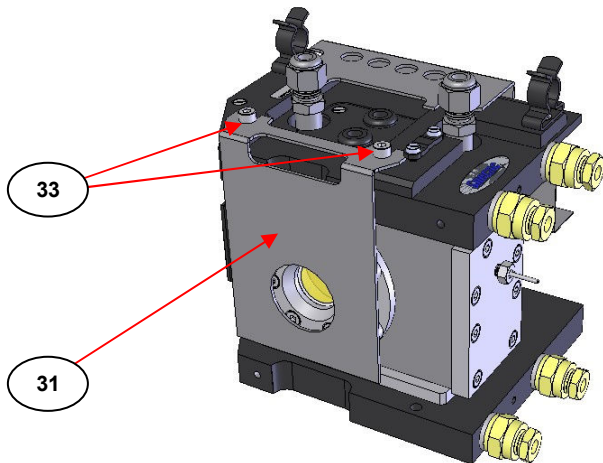

Fig 13A. Narrow Heat Shield Fitted to the HTHP Cell
To gain access for undoing of the six bolts (30) for either complete window housing assembly (11), it will be necessary to remove the heat shield (31 - narrow) or (32 - wide) that covers the window assembly (11). This is done by loosening the two small cap head screws (33) that hold the shield (these do not need to be removed completely) and sliding the shield away from these screw locations. Refitting of the shield is a reverse procedure. (See **Figs 13A and 13B.**)